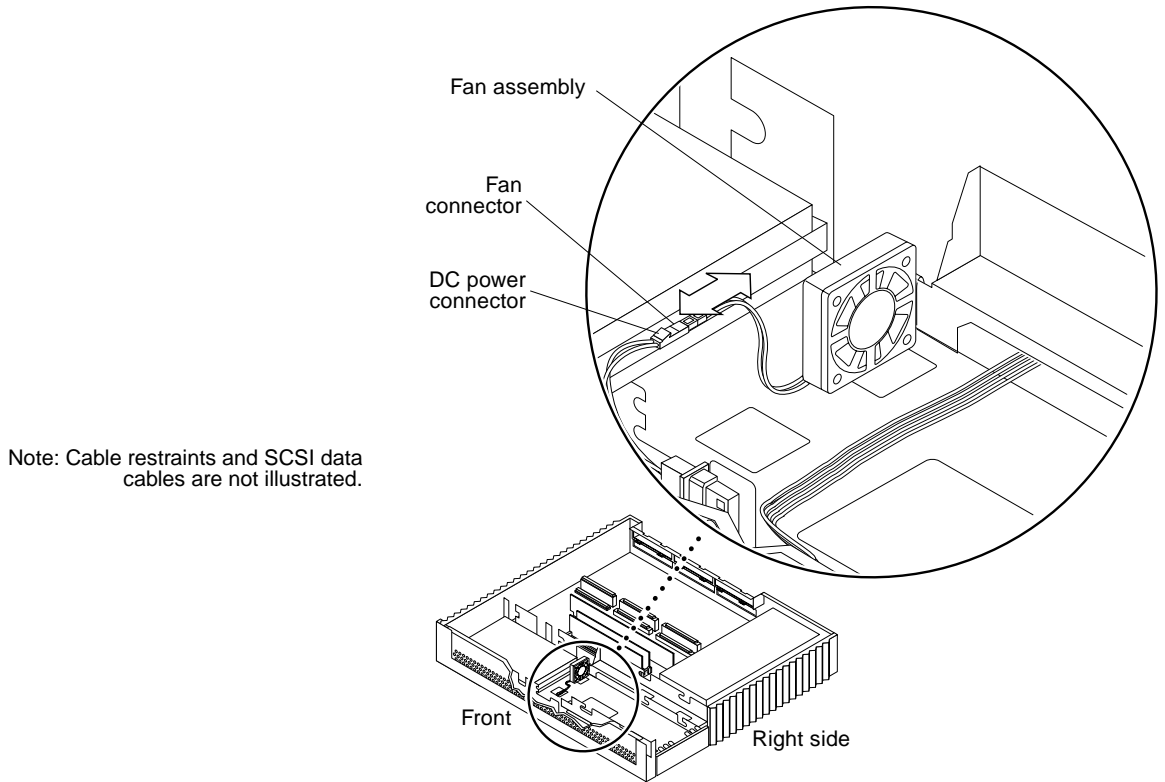

FIGURE 8-25 Fan DC Power Connector
- 4. Connect the two-pin power connector to the fan assembly DC power connector (FIGURE 8-25).**